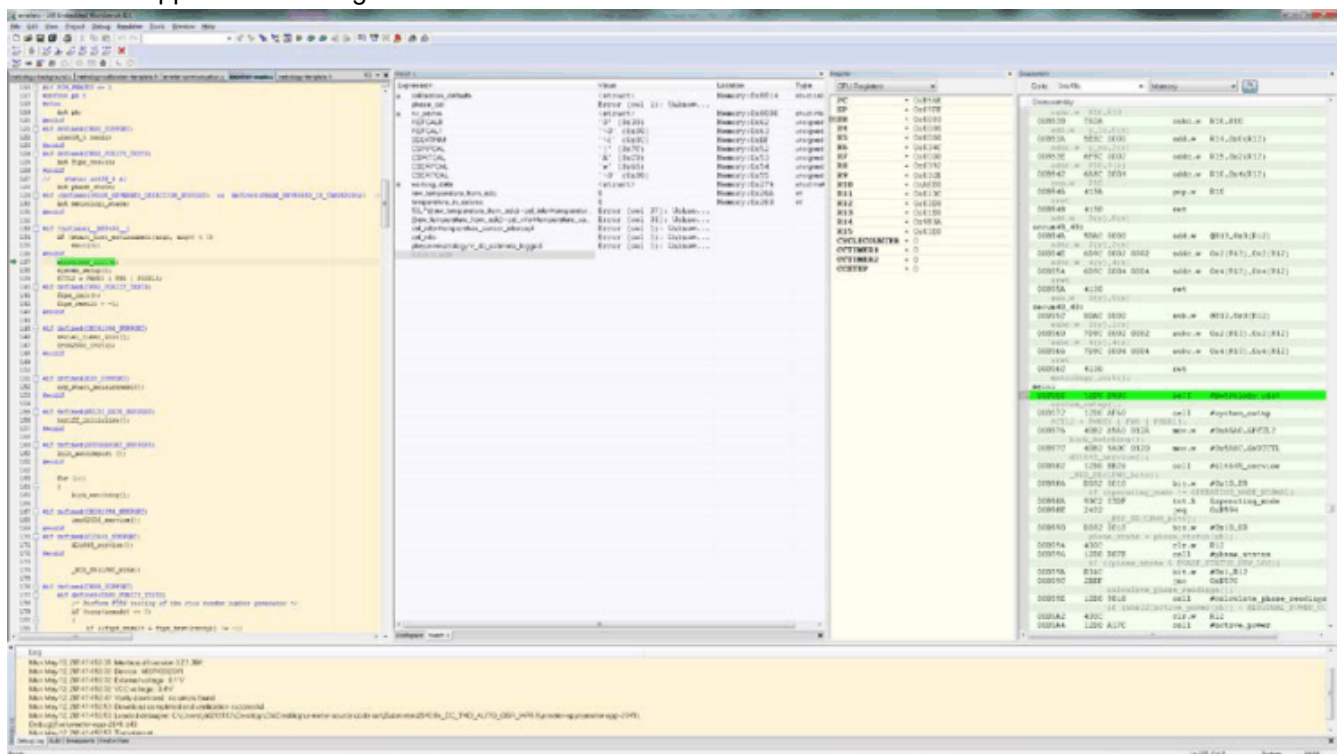

Figure 9-10. Debugger Screen
12. After downloading is completed and successful, a screen like that shown in Figure 9-10 will appear. Click Go to start application running.